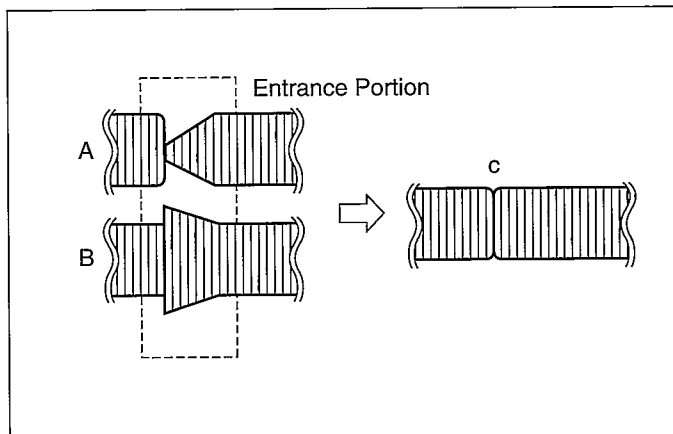

Fig. M7
- (2) Playback the Alignment Tape.
- (3) If the RF envelope appears like example "A" or "B" in Fig. M7, then adjustment of the tape guide post (P2: Entrance) is necessary.
- (4) Adjust the tape guide post (P2) with the post adjustment screwdriver so that the RF envelope waveform at the entrance portion becomes flat as shown in Fig. M7 "C".